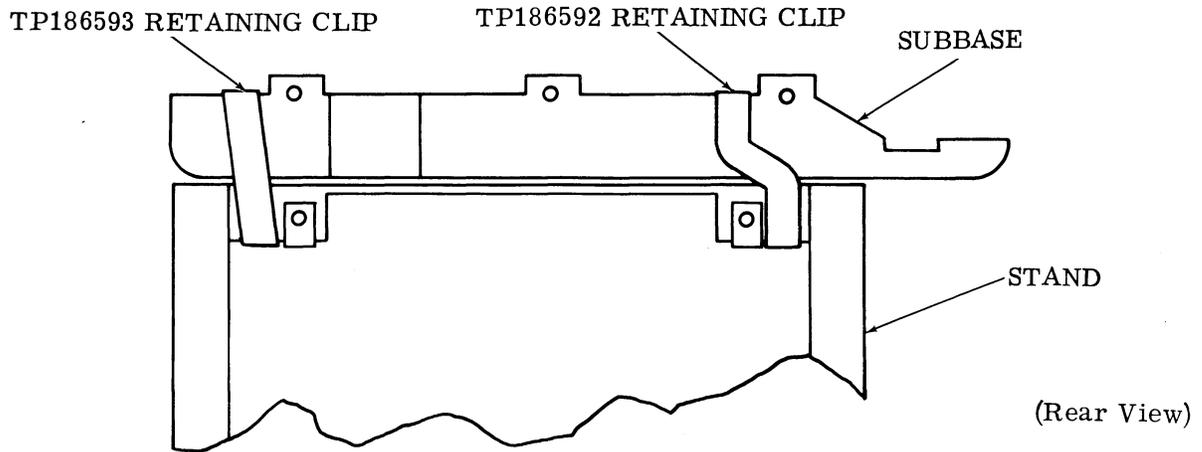

Figure 4 - Installation of Retaining Clips to Subbase and Stand
2.03 Place the subbase and typing unit on top of the stand so that its back edge and sides line up with the back edge and sides of the stand. Install the two retaining clips, included in the hardware bag, on the base at the rear (one on each end) and snap them in place on the stand. Refer to Figure 4.